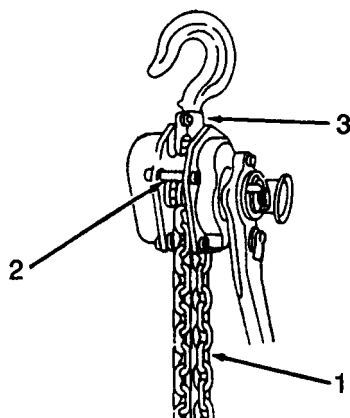

Figure 3-3. Hoist Chain, Lubrication.
c. Hoist Chain. (Figure 3-3)
- (1) Apply either machine oil or gear oil to load chain (1). Wipe off excess, but allow lubricant to remain between links where wear occurs.
- (2) Apply a few drops of oil to guide roller shafts (2).
- (3) Apply a few drops of oil to neck of hook (3).